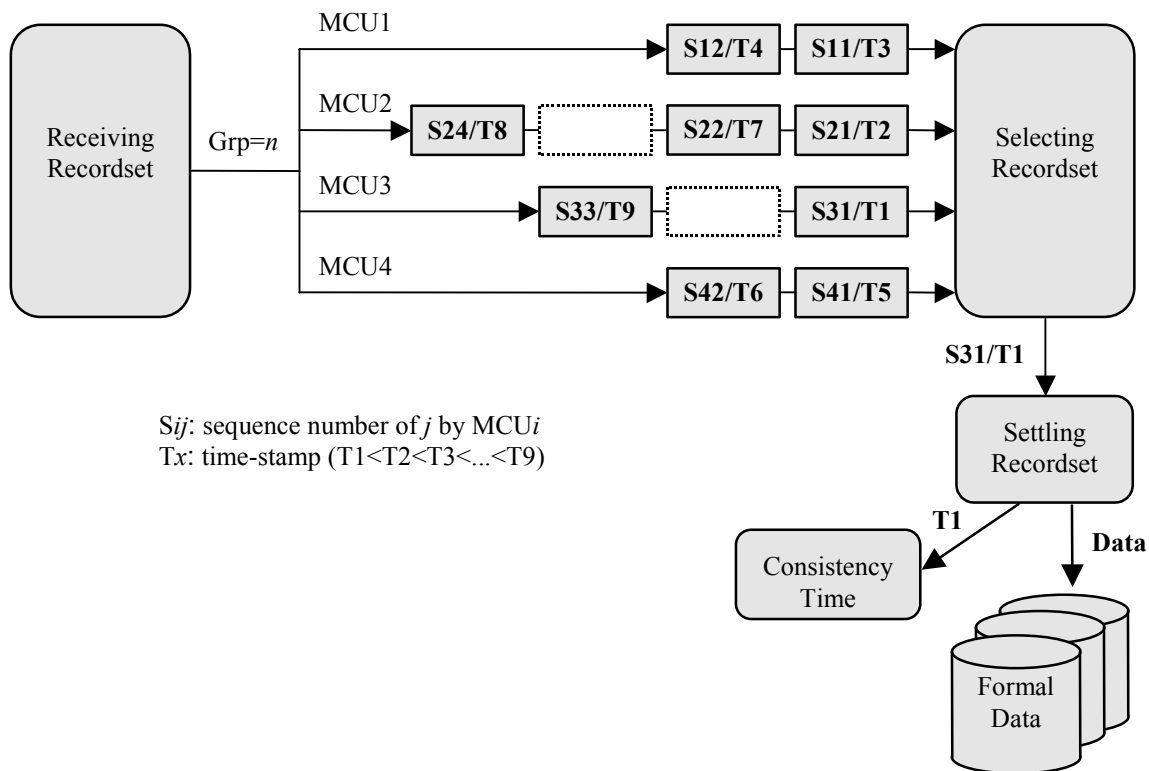

Fig. 3.15.3-1 Example of Selecting Recordset at the RCU
- ① Checks if there are the valid entries at the top of all the queues in the consistency group. If one of them is empty, the RCU waits for the entry.
- ② When all the top entries are filled with the valid Sidefiles, the RCU selects one entry that has the smallest time-stamp. It can be settled.
- ③ Repeats step 1 and 2.
- Fig. 3.15.3-1 shows an example. All the top entries are filled with the recordsets of S11/T3, S21/T2, S31/T1 and S41/T5. The RCU selects the recordset of S31/T1 to be settled because the T1 is the smallest time-stamp. Then the top entry S31/T1 is removed from the MCU3's queue. The S32 becomes the top but it is empty. The next recordset S11/T2 will be selected when recordset S32 arrives and its time-stamp is smaller than T2